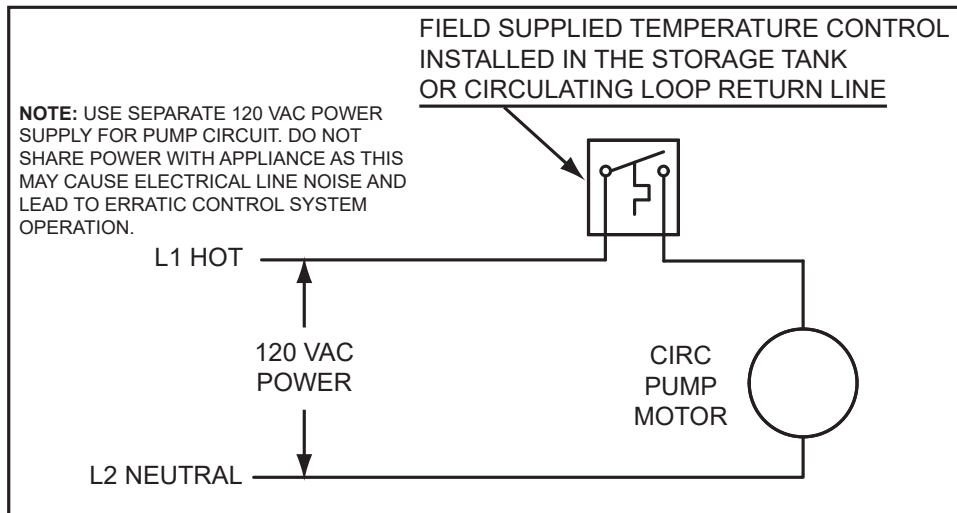

Figure 82. Recirculating Loop with Storage Tank or Building Recirculation
6. If a pump is being installed between a water heater and storage tank or on a building recirculation loop wire according to *Figure 82* (page 98).
6. If a pump is being installed between a water heater and storage tank or on a building recirculation loop wire according to **Figure 82** (page 98).